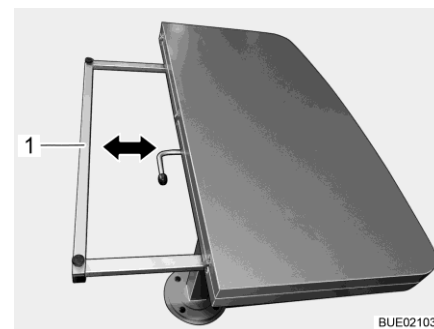

Fig. 105 Reducing the table top size
- Hold the supporting frame (Fig. 105,1) on both sides and push it underneath the table top as far as it will go.